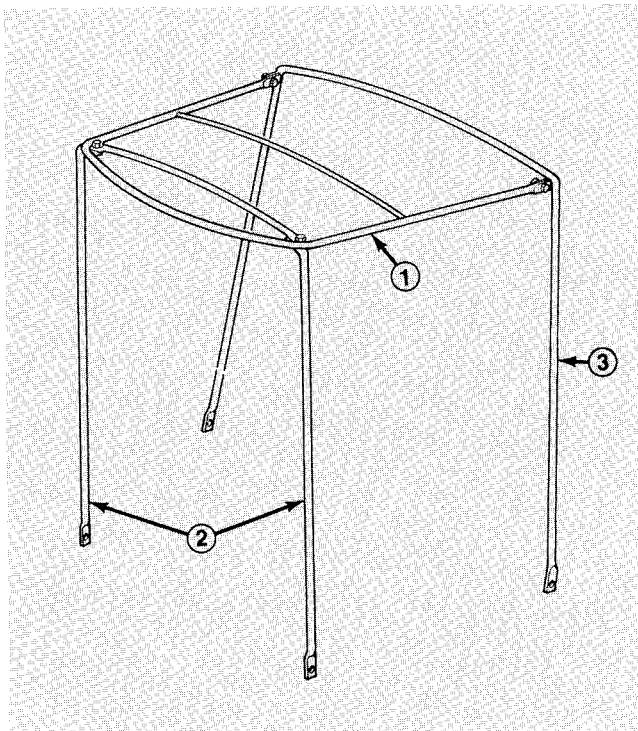

Figure 1
1. Secure top frame to front corner posts and rear vertical bow with capscrews ($\frac{1}{4}$ -20 x $\frac{3}{4}$ "') and lock-nuts (Fig. 1).